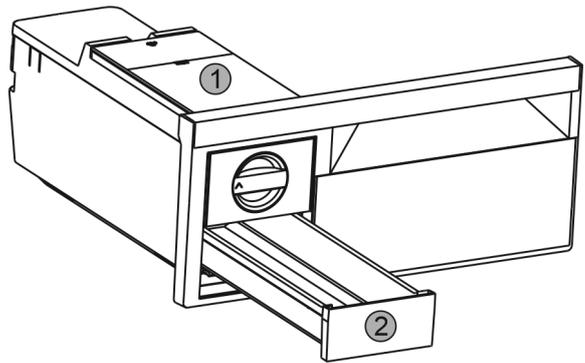

Fig. 49
- ▶ Take out the water tank Fig. 49 (1) and ice cube drawer Fig. 49 (2).